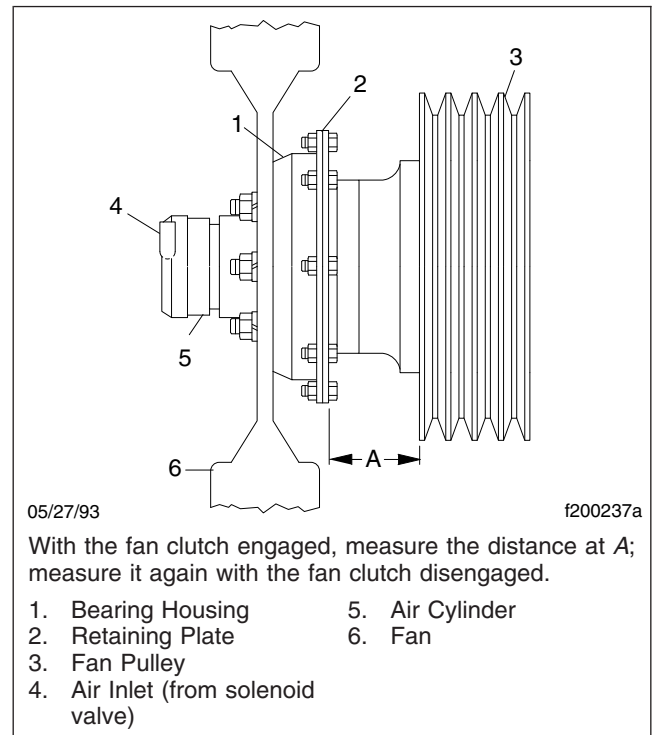

Fig. 9, Kysor K22RA Fan Clutch Lining Wear Checking
2. Measure the distance from the back surface of the fan clutch retaining plate to the forward-most edge of the fan belt pulley. See **Fig. 9**, Ref. A.